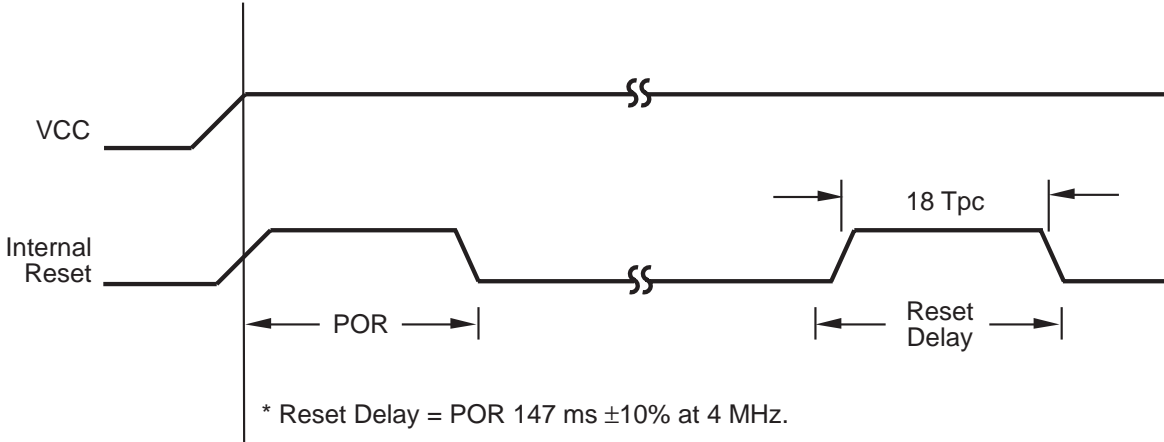

Figure 18. WDT Turn-On Timing After Reset
**Watch-Dog Timer.** The Watch-Dog Timer is activated automatically by power-on if it is enabled in the Mask Option. The WDT is a retriggerable one-shot timer that resets the Z8 if it reaches its terminal count. The WDT is driven by the system clock. It must be refreshed at least once during each time cycle by executing the WDT instruction. WDT can be enabled by Mask Option. (Figure 18)